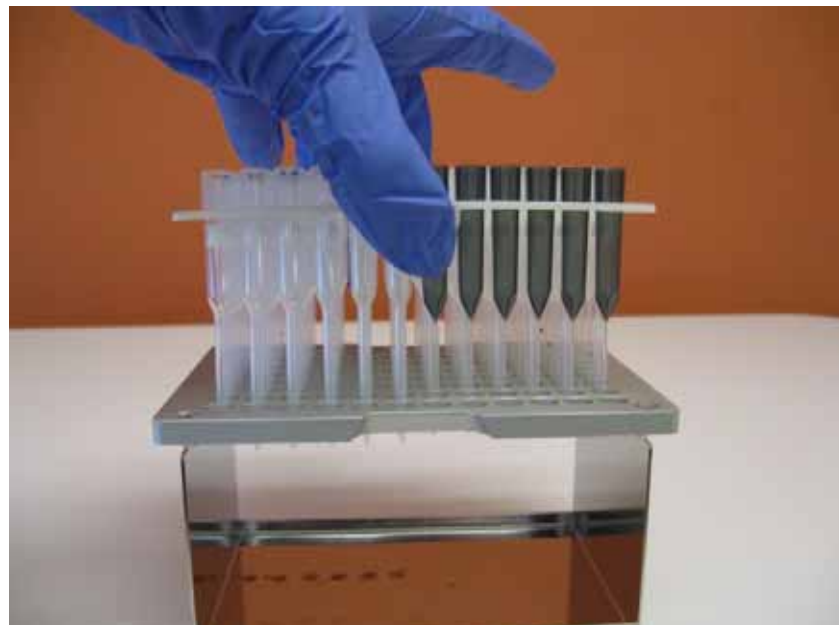

Figure 2.13 Placing the tips and foil piercers into metal tip carrier.
7. Remove the metal tip carrier from the Prep Station deck by lifting straight up. Place the tips and the foil piercers into the carrier. It is helpful to place the carrier at eye level to align the plastic tips in the carrier as shown in Figure 2.13.